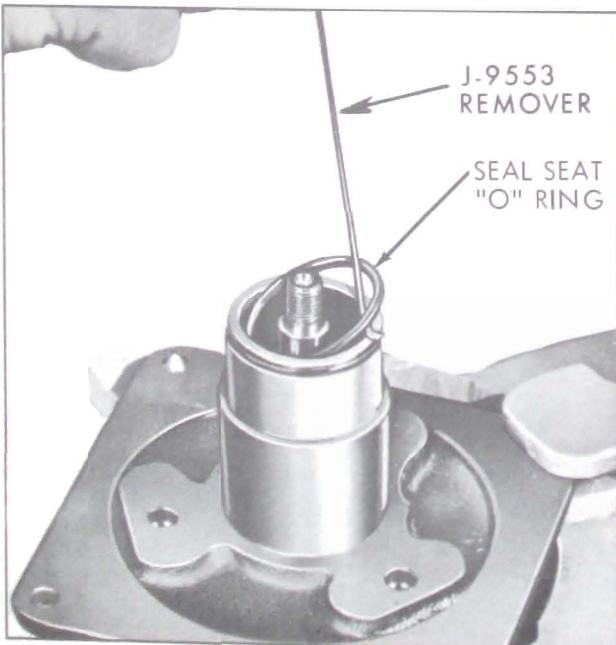

Figure 11-90—Removing Shaft Seal Seat O-Ring
5. Remove O-ring from interior of front head casting bore, using J-9553 remover. See Figure 11-90.